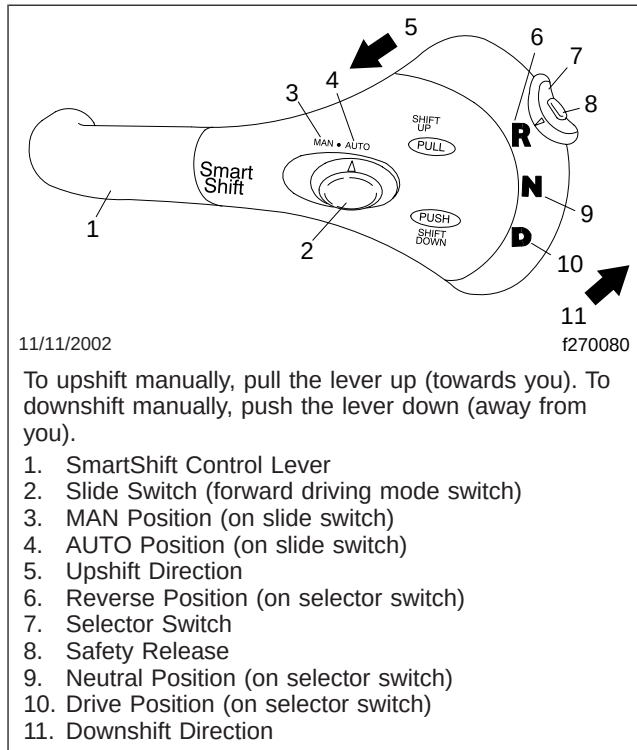

Fig. 8.13, SmartShift Controller (FreedomLine custom version)
1. With the parking brake engaged and/or the brake pedal pressed down, select neutral (N) by pressing in the safety release and moving the selector switch to the center position. See Fig. 8.13.
3. With air pressure built up, select drive (D) by pressing in the safety release and moving the selector switch downward to the position below neutral. Release the parking brake and/or pedal.